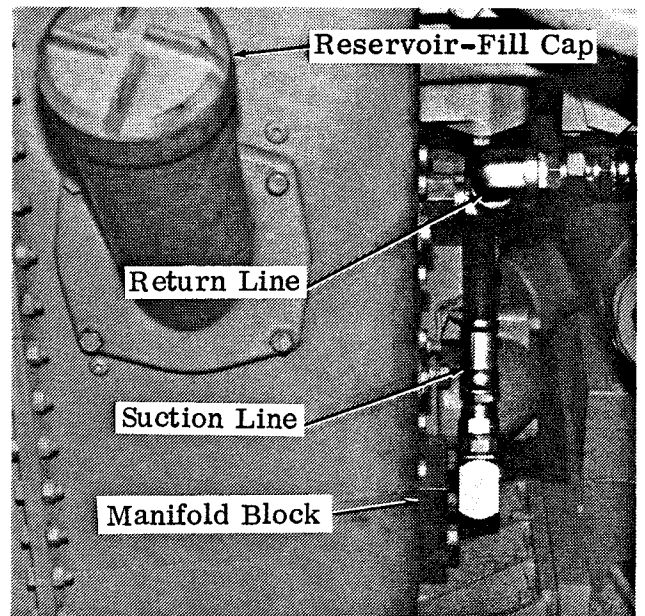

Figure 2
5. Remove the bulkhead plate from the bottom of the oil reservoir and install the manifold block (Figure 2).
9. Install the return line with fittings between the valve bank and oil reservoir (Figures 2 and 3).